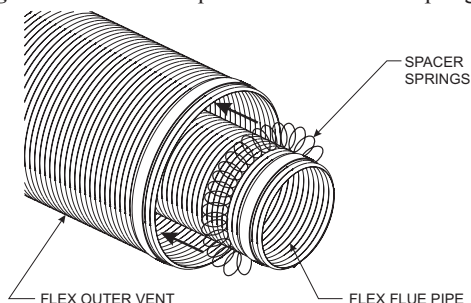
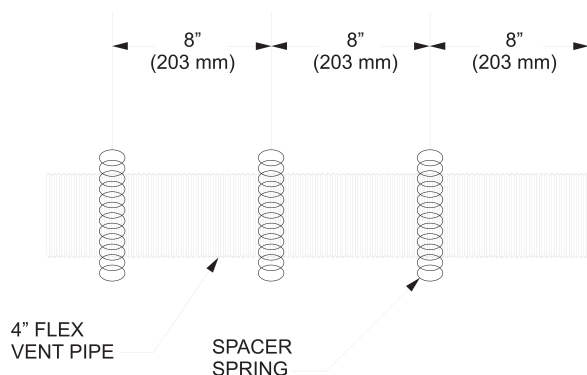

Figure 69
Figure 70
2. Check to see that the vent spacer springs are located around the flue vent at 8" and 12" intervals along its length. See Figure 69. If not, stretch the spacer springs to about 15" long and wrap them around the flue, then interlock the ends of each spring about 2". See Figure 70. Maintain equal distance between spring spacers.